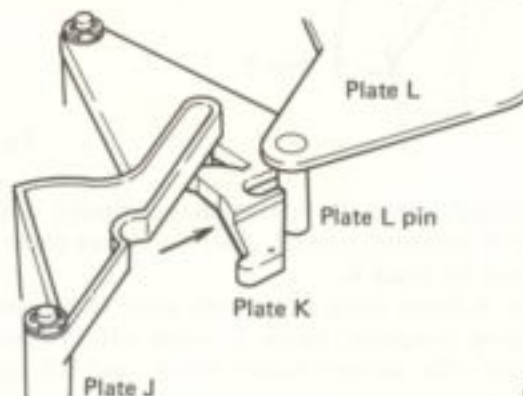

Fig. 24
12. Although plate K tends to return, since arm lead-in is completed restrains plate K (Fig. 24).